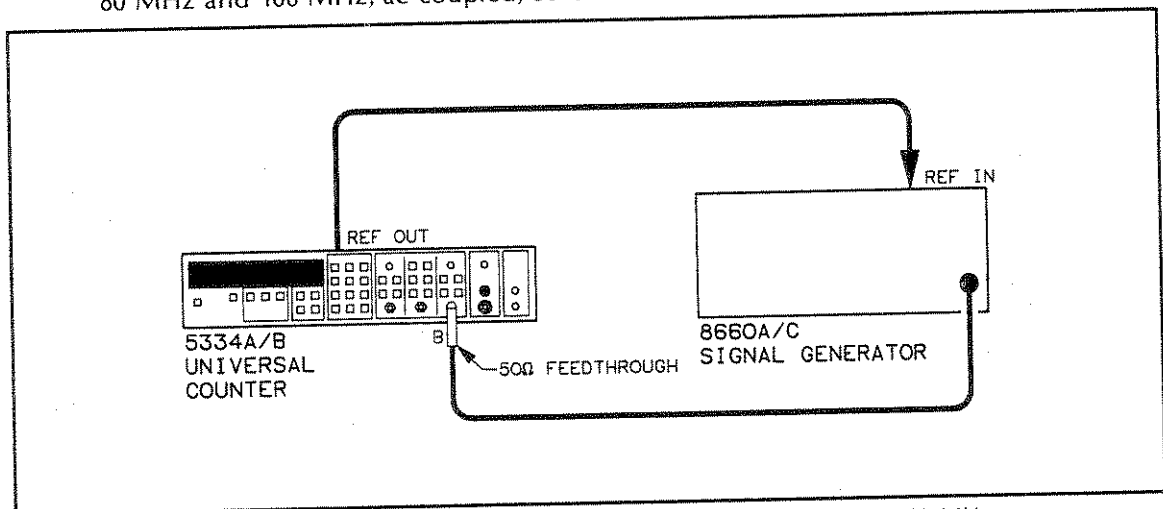

Figure 4-5. Channel B Frequency and Sensitivity Setup, 80 MHz-100 MHz
- Connect the signal generator to the HP 5334A/B Input B using a 50 Ohm feedthrough connector as shown in *Figure 4-5*.